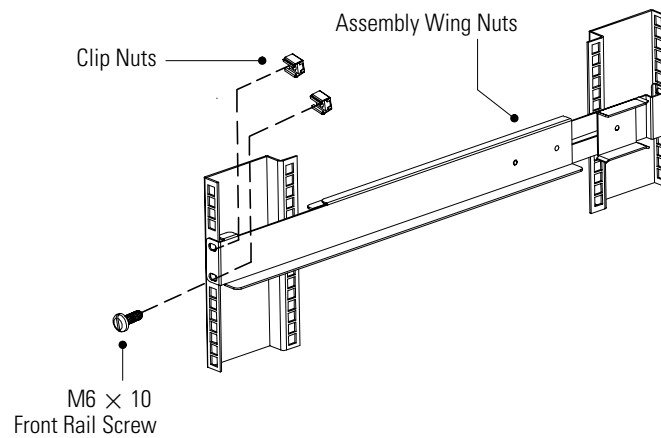

Figure 5. Securing the Front Rail
7. Secure only the bottom hole of the rail to the front of the rack with one M6 × 10 screw and clip nut (see Figure 5).